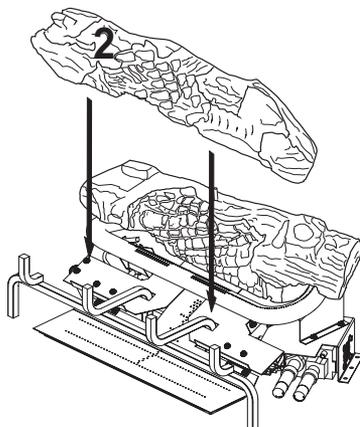

Figure 36 - Installing Log # 2
2. Place the middle log (#2) in front of "U"-burner and against the edges of plate as shown in Figure 36.